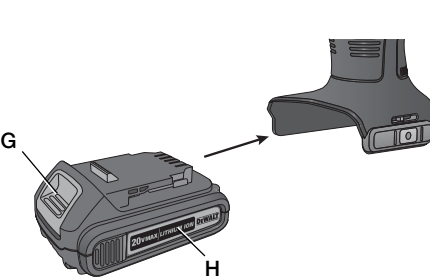

FIG. 3
Charging Procedure (Fig. 3)
2. Insert the battery pack (H) into the charger, as shown in Figure 3, making sure the pack is fully seated in charger. The red (charging) light will blink continuously, indicating that the charging process has started.